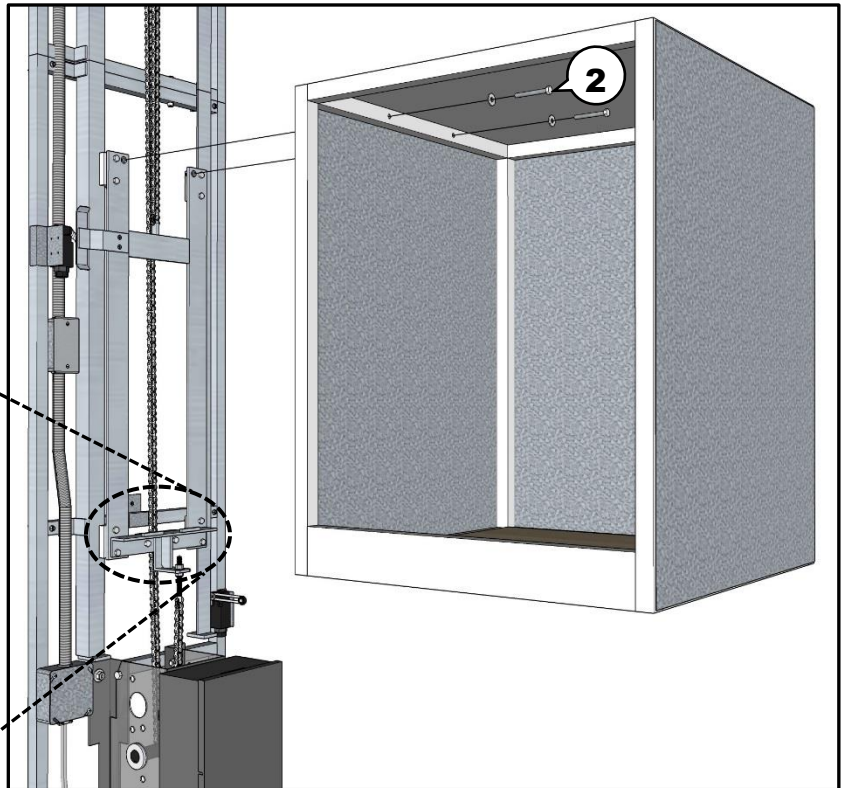

Figure 21
- 2** Use provided bolts ($\frac{1}{4}$ "-20 x $1\frac{3}{4}$ ") & washers to secure dumbwaiter car to trolley. (see **Figure 21**)